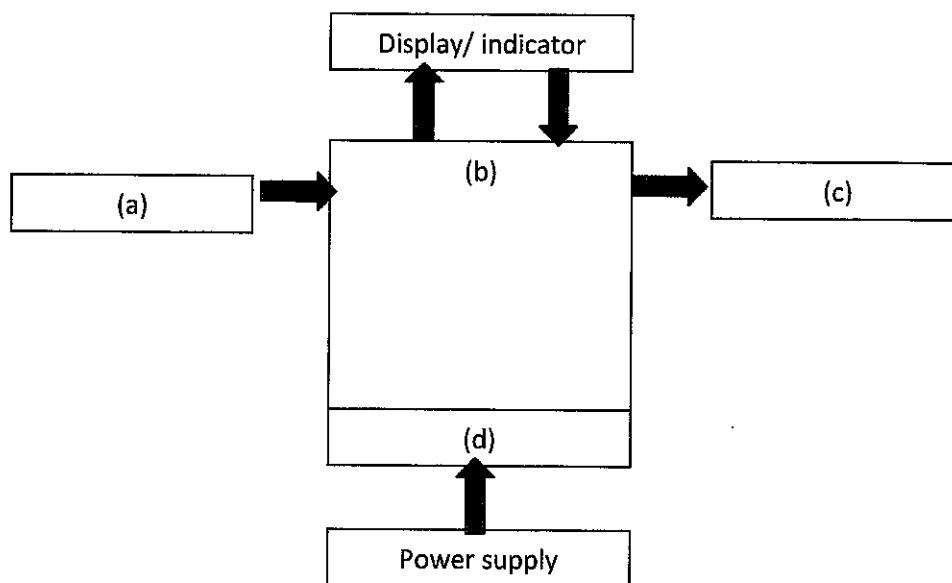

Figure A1 (b)/Rajah A1 (b)
- b) Figure A1(b) shows a PLC building structure. Identify each of the items (a),(b),(c) and (d) below.